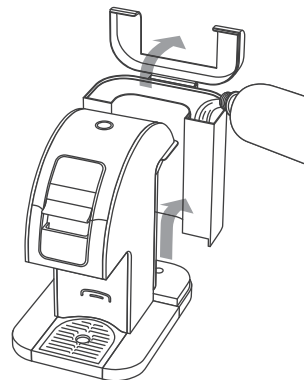

Fig. 15
2. Remove the Water Tank from brewer by tilting and lifting away from the Water Tank away from the brewer. Open the Lid, and fill the Water Tank with water but not more than the MAX Fill Line. Place the Water Tank back on to the rear base of the brewer and close the Lid. (Fig. 15)